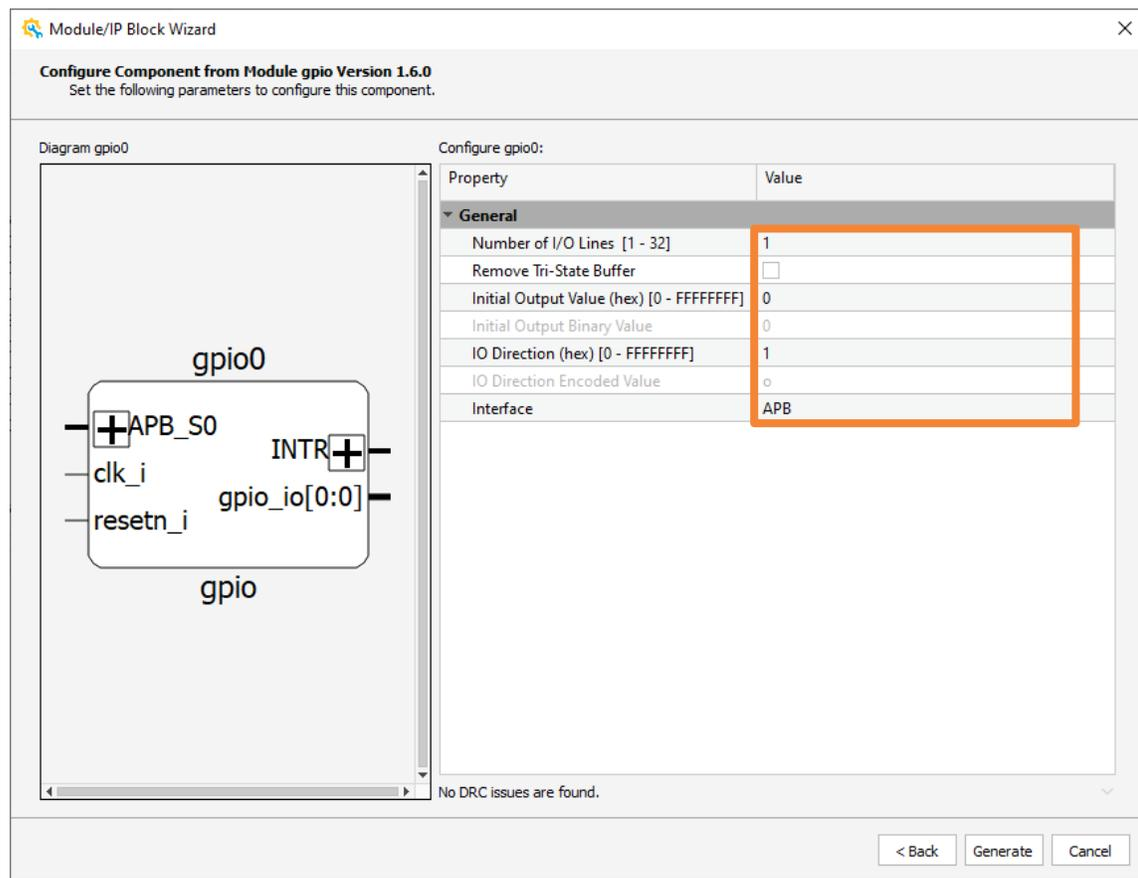

Figure 2.18. Module/IP Block Wizard - Configure Component from IP Gpio Version 1.6.0
3. Enter a component name in the **Component name** area, such as gpio0. Click **Next**. Module/IP Block Wizard shows the **Configure Component from IP gpio Version 1.6.0** page (Figure 2.18).